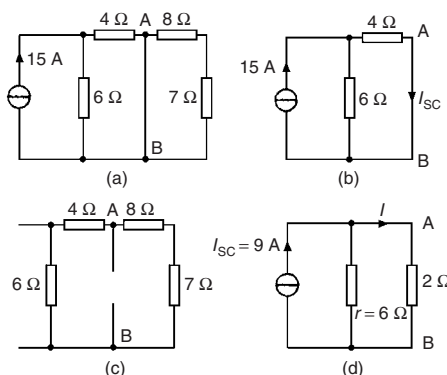

Figure 13.62
- (i) The $2\ \Omega$ resistance branch is short-circuited as shown in Fig. 13.62(a)
- (ii) Fig. 13.62(b) is equivalent to Fig. 13.62(a). Hence
- (iii) If the 15 A current source is replaced by an open-circuit then from Fig. 13.62(c) the resistance ‘looking-in’ at a break made between A and B is given by $(6+4)\ \Omega$ in parallel with $(8+7)\ \Omega$, i.e.
- (iv) From the Norton equivalent network shown in Fig. 13.62(d) the current in the $2\ \Omega$ resistance is given by: